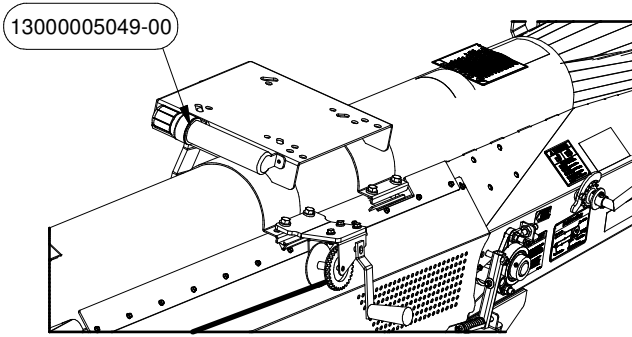

FIGURE 36
5. Attach the Manual Holder PN# 5049 to the Engine Mount PN# 6601 using its included 1/4" Self Tapping Screws. Parts can be found in Electric Intake Hardware Box PN# 7313. See Figure 36 for details.